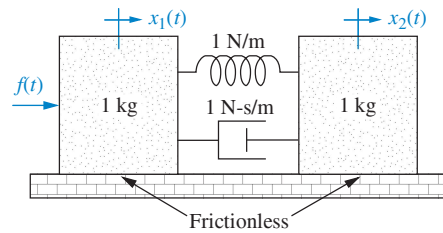

FIGURE P2.10
25. Find the transfer function,  $G(s) = X_2(s)/F(s)$ , for the translational mechanical network shown in Figure P2.10. [Section: 2.5]